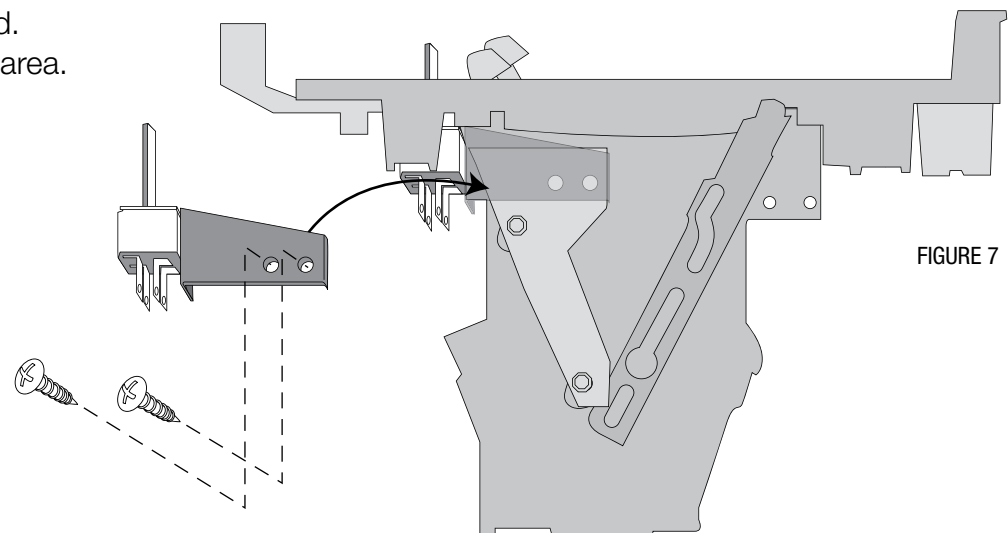

FIGURE 7
2) Attach the blower switch/bracket to the brace bracket with the included #8-16x3/8" screws (see figure 7).